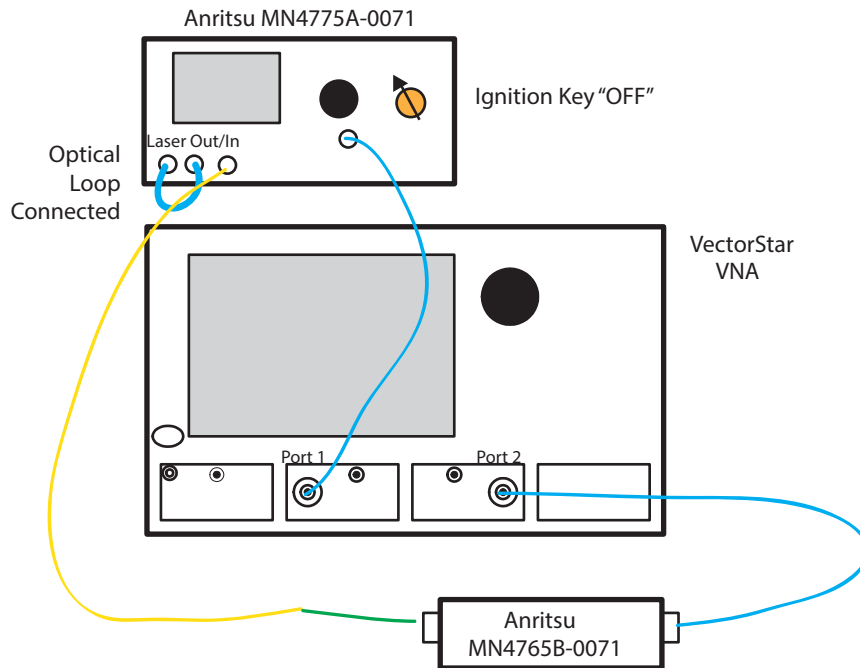

Figure 3-54. Optical Connection to MN4765B-0071
3. Connect **Yellow-colored** end of Optical Patch cable to MN4775A-0071 E/O Converter as shown in Figure 3-54.
4. Connect **Green-colored** end of Optical cable to MN4765B-0071 as shown in Figure 3-54.
5. Connect the VNA Port 1 to Anritsu MN4775A-0071 E/O Converter RF Input as shown in Figure 3-54.
6. Connect Anritsu MN4765B-0071 O/E Module Output to VNA Port 2 as shown in Figure 3-54.